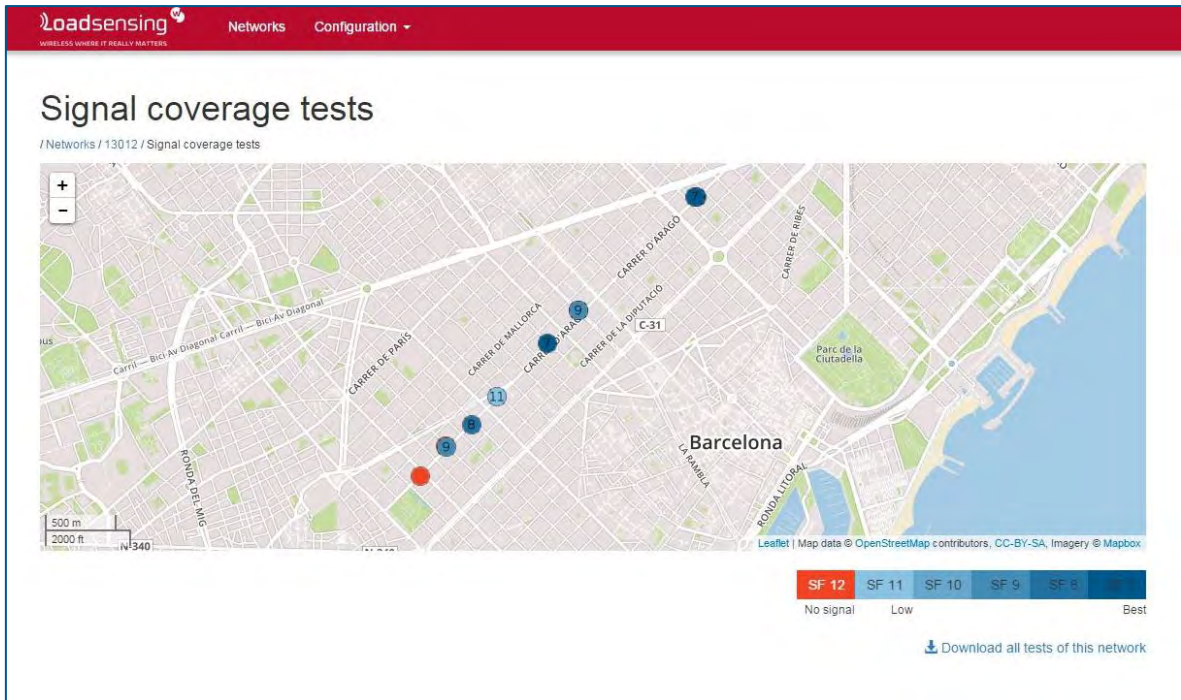

Figure 48: View of the geographical display (in the software of the gateway) indicating the results of the signal coverage tests.
- 2) They are also displayed geographically in the software of the gateway (Figure 48). In this case, your computer has to be connected to the Internet, to get the map. The position where the tests have been carried out is displayed with a specific symbol that related to the coverage at the specific point. The symbol selected (color legend) indicates the maximum SF from which >50% of the information packages sent by the datalogger have reached the gateway. In red, the places where ≤50% of the packages of SF 12 are indicated.
- 3) Moreover, the results of the signal coverage tests can be downloaded from the gateway in a .csv file (Figure 48, lower right corner). If the test is done "offline", the results only appear in this .csv.